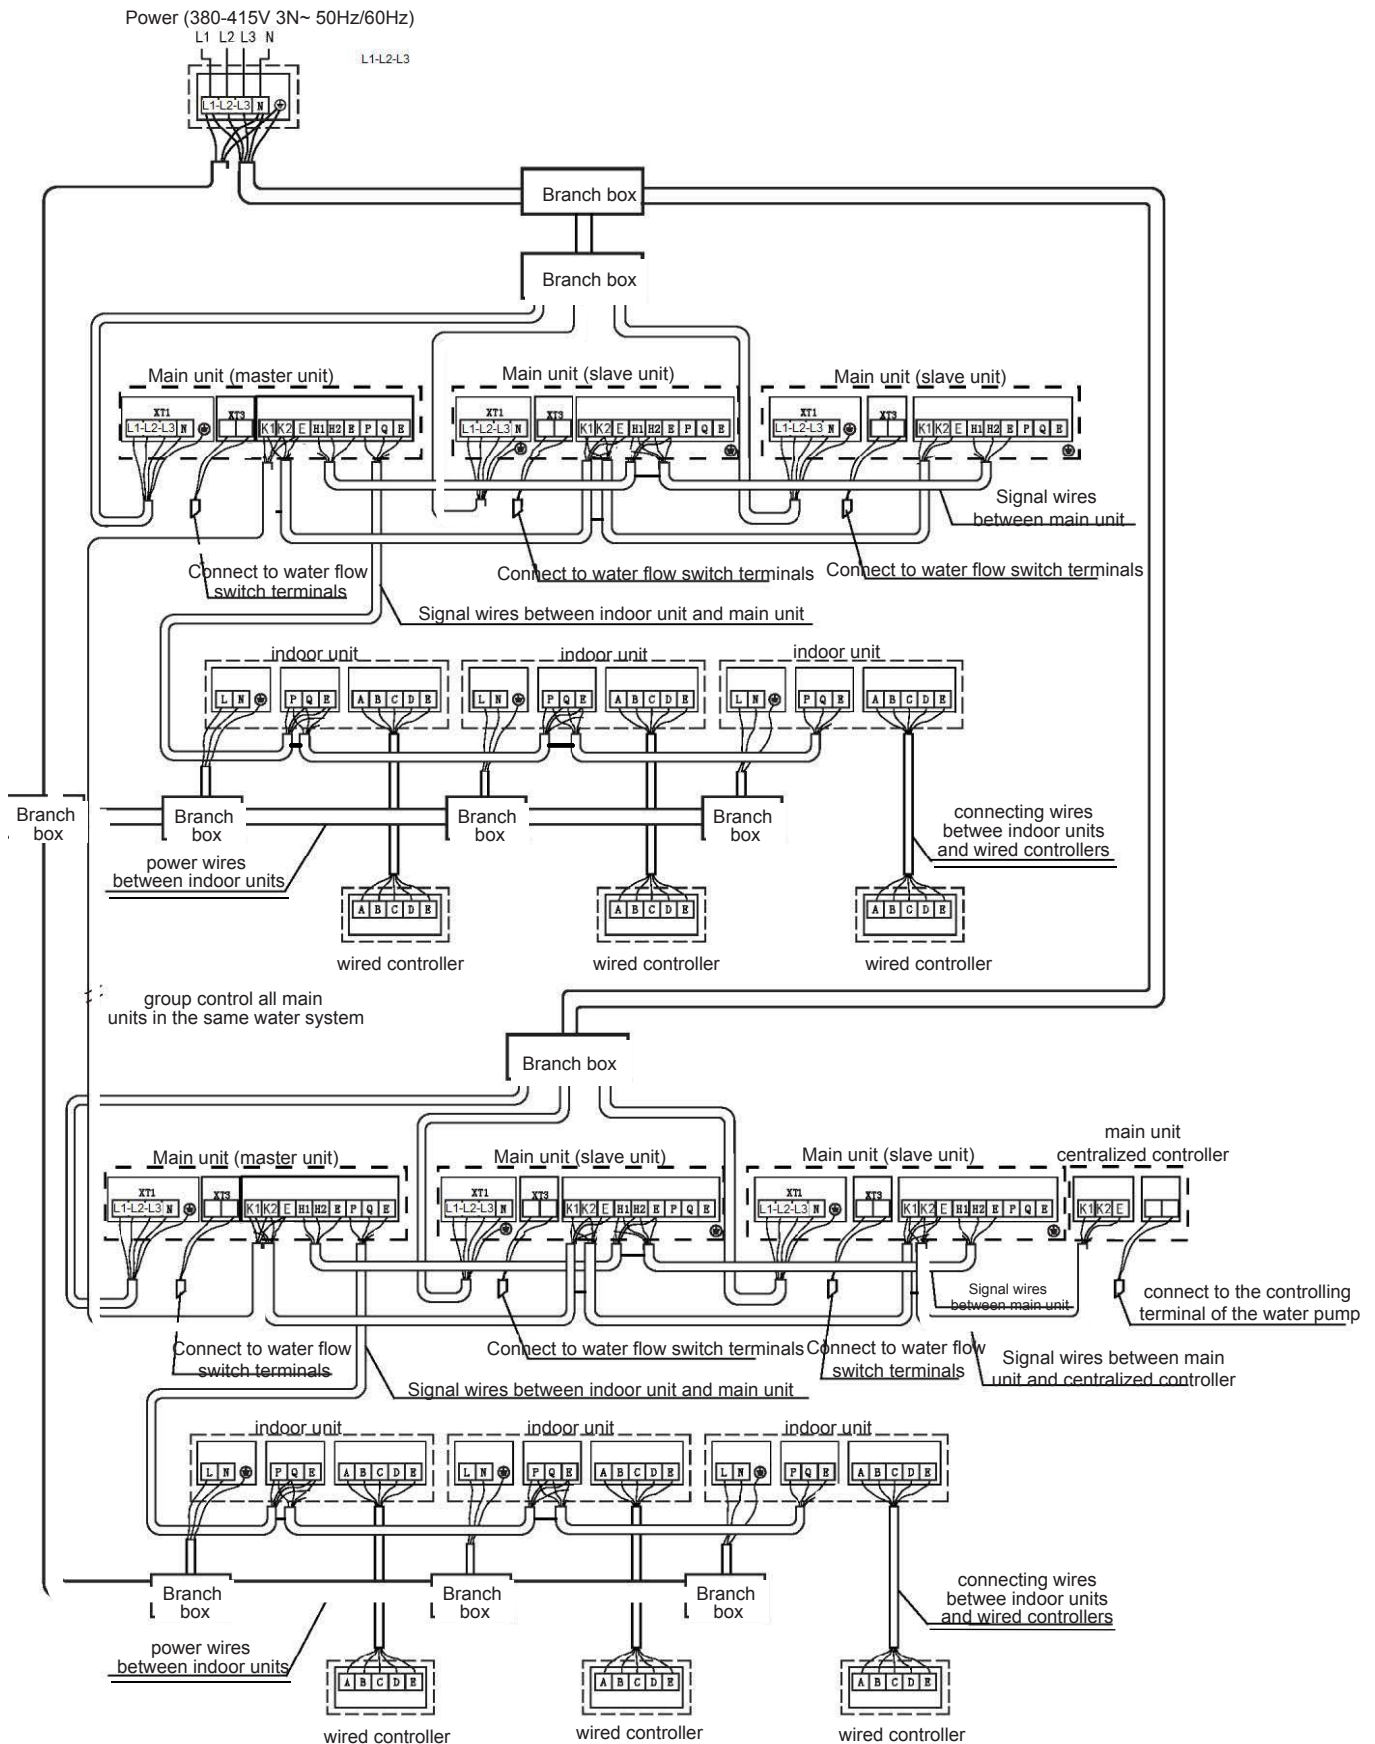

Fig.7-15
- When the water pipeline has a single system, the water pump ON/OFF signal wire should be connected to the XT3 terminals in the main unit electric control box. When the water pipeline has several systems, the water pump ON/OFF signal should be controlled by the main unit centralized controller. The wiring of main unit centralized controller see the Fig.7-15.